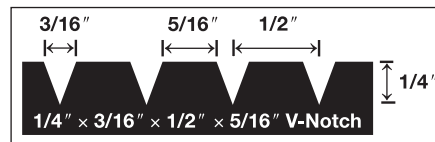

Figure 2
- V-Notch trowel (Figure 2) or other adhesive manufacturer's trowel